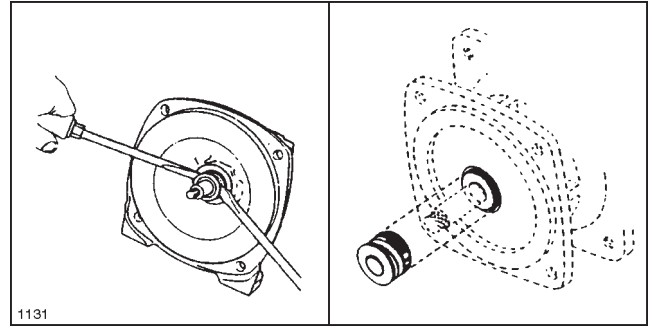

FIG. 13
1. Lightly lubricate shaft with mineral oil or glycerin for easier removal of seal. Using two screwdrivers positioned opposite each other, pry the rotary portion of the seal from the shaft. See FIG. 13.
4. To install the rotary portion of the mechanical seal, place it over the shaft with the carbon side facing in, and press until it bottoms out against the stationary portion. Install rubber spacer. See FIG. 13.